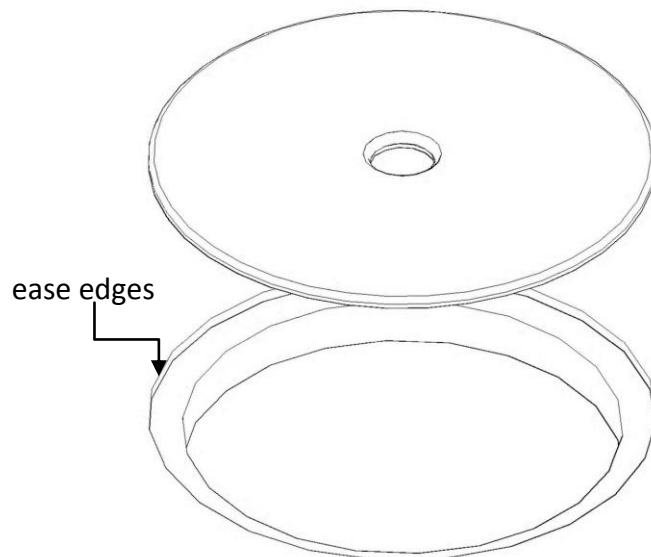

Fig. 5
3. To prevent chipping, ease the edge of the deck material surrounding the outside of the lid. (fig.5)